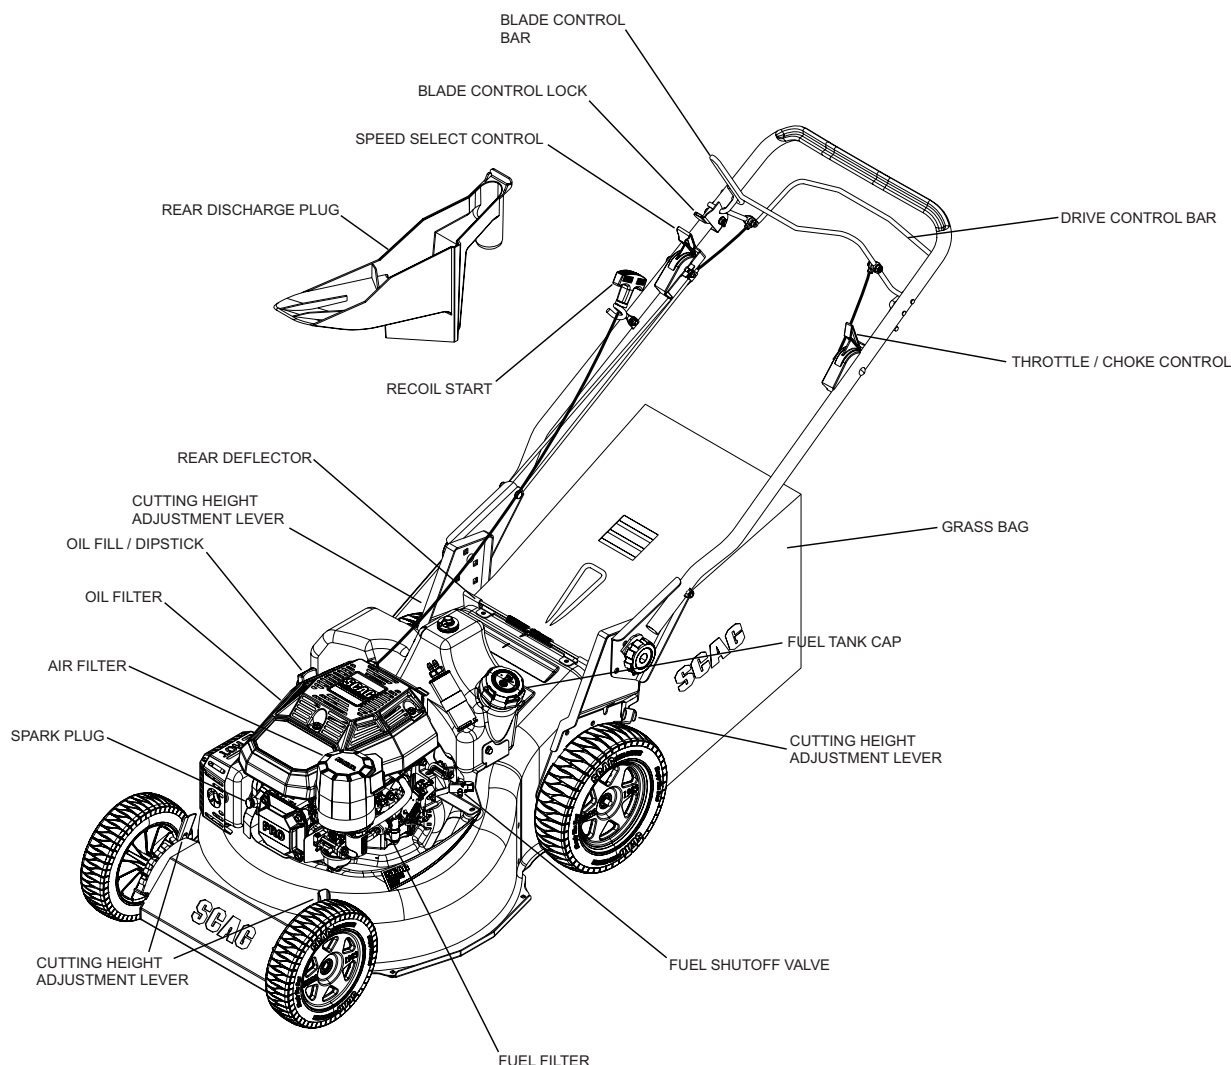

Figure 4-1. Controls and Instruments
1. **Recoil Start (Figure 4-1).** The recoil start is used to start the engine.
2. **Blade Control Bar (Figure 4-1).** Use to engage and disengage the cutter blade drive system. Pulling the control bar will engage the cutter blades. Releasing the control bar will disengage the cutter blades.
3. **Engine Throttle / Choke Control (Figure 4-1).** Use to control the engine speed and choke control. Pushing the lever forward increases engine speed. Pulling the lever back decreases engine speed. Push the lever all the way forward past the detent to engage the choke when starting a cold engine. Full back position is the STOP position. Full forward to detent is the cutting position.
4. **Drive Control Bar (Figure 4-1).** Use to engage and disengage the mower forward drive system.
5. **Speed Select Control (Figure 4-1).** Use to set the maximum forward speed.
6. **Blade Control Lock (Figure 4-1).** Use to lock the blade control bar in the neutral position.
7. **Grass Bag (Figure 4-1).** Use to bag and collect grass clippings while mowing.
8. **Fuel Tank Cap (Figure 4-1).** Use to fill the fuel tank with fuel.
9. **Fuel Shutoff Valve (Figure 4-1).** Use to shut off fuel supply to the engine.
10. **Cutting Height Adjustment Lever (Figure 4-1).** Use to set the cutter deck at the desired cutting height.
11. **Fuel Filter (Figure 4-1).** Use to filter the fuel supply to the engine. Refer to engine owner's manual supplied with this unit when servicing.
12. **Spark Plug (Figure 4-1).** Use to supply spark to the engine. Refer to engine owner's manual supplied with this unit when servicing.
13. **Air Filter (Figure 4-1).** Use to filter the air supply to the engine. Refer to engine owner's manual supplied with this unit when servicing.
14. **Oil Filter (Figure 4-1).** Use to filter the oil supply in the engine. Refer to engine owner's manual supplied with this unit when servicing.
15. **Oil Fill / Dipstick (Figure 4-1).** Use to add and check the level of oil in the engine. Refer to engine owner's manual supplied with this unit when servicing.
16. **Rear Discharge Plug (Figure 4-1).** Use to shut off the discharge of grass clippings out of the rear discharge opening. Install when mulching.
17. **Rear Deflector (Figure 4-1).** Use to hold the grass bag and rear discharge plug in place during operation.